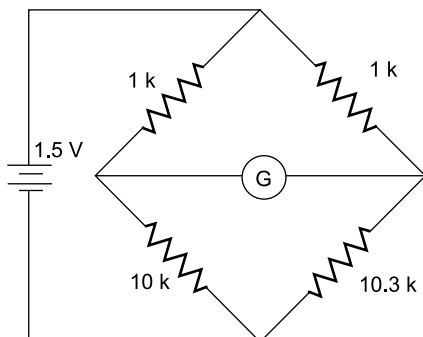

Fig. 11.30
4. Calculate the current through the galvanometer in the circuit diagram of Fig. 11.30.